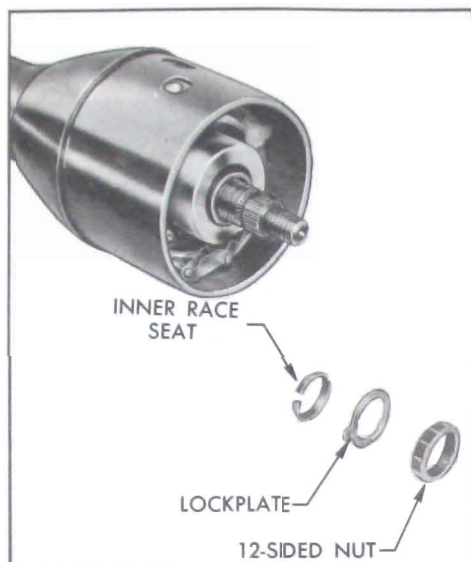

Figure 8-74—Removing 12-Sided Nut, Inner Race and Lockplate
4. Straighten locking tabs of lockplate (see Figure 8-74) and remove 12-sided nut, lockplate and inner race seat from upper portion of mast jacket.